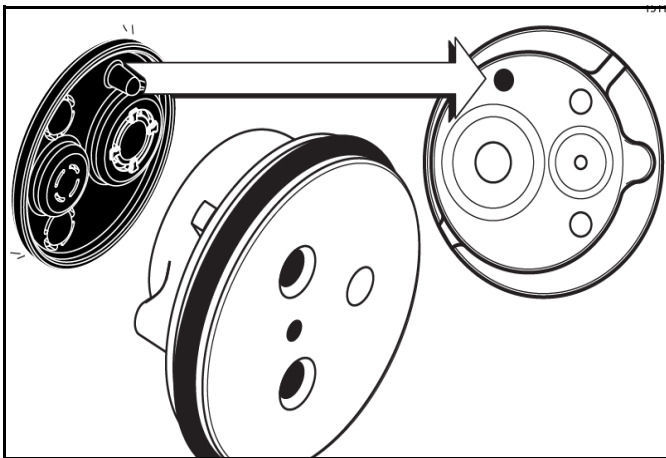

Figure 6-39
6. Slide the pump valve gasket into the holes on the cap. **Do not** lubricate the gasket. (See Figure 6-39.)